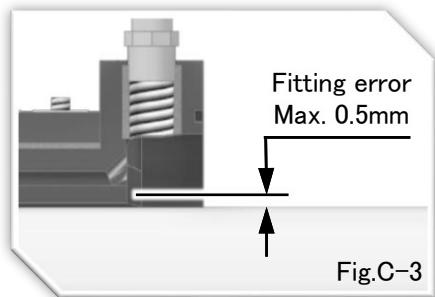

Fig.C-3
6. Push the joint hose into the stern tube. Adjust the housing position to provide a uniform clearance between the housing and the shaft. The maximum fitting error of clearance is 0.5mm. (See Fig.C-3)